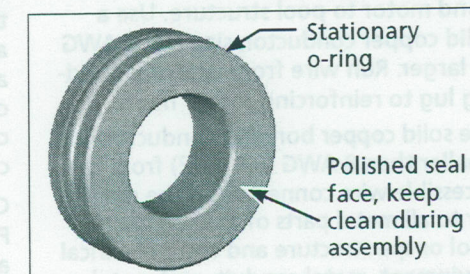

Figure 8
1. Obtain a new mechanical seal rotating assembly and seat (reference numbers 8a and 8b on page 11). Seal parts must be replaced as a set. Do not mix old and new parts. Lubricate seal stationary o-ring with a very small amount of dish soap. Do not allow soap, dirt, grease, or any contaminate on the polished seal face (see Figure 8).